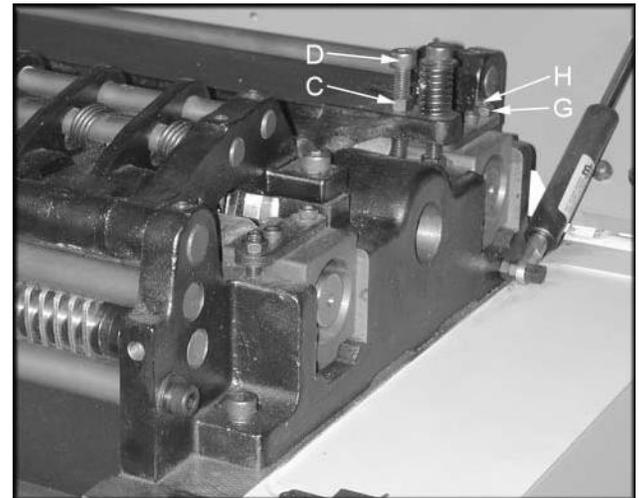

Figure 17
6. If it doesn't, loosen jam nut (G, Fig 17) and turn the adjusting screw (H, Fig 17) to raise, or lower the out-feed roller until it contacts wood gauge.